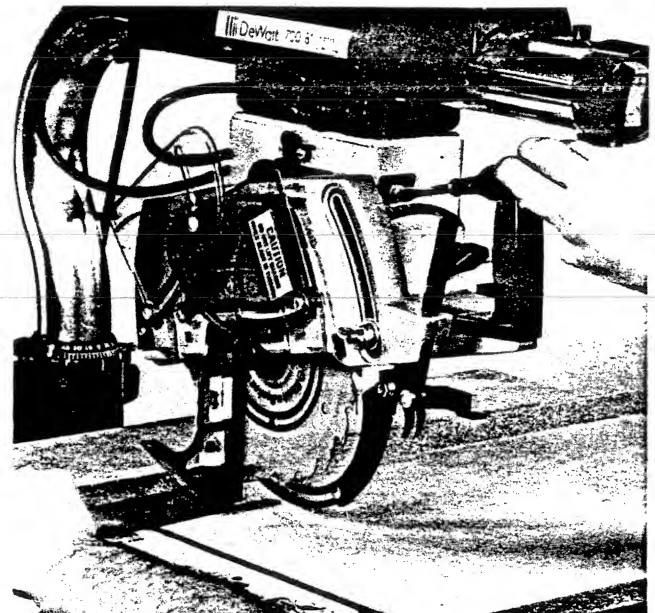

Fig. A8
3. Raise the lower guard and place your combination square on the table against a flat portion of the blade Fig. A8. If the blade is not 90°, loosen the screw that holds the bevel pointer and also loosen the bevel lock knob. Shift the saw until the blade is 90°.